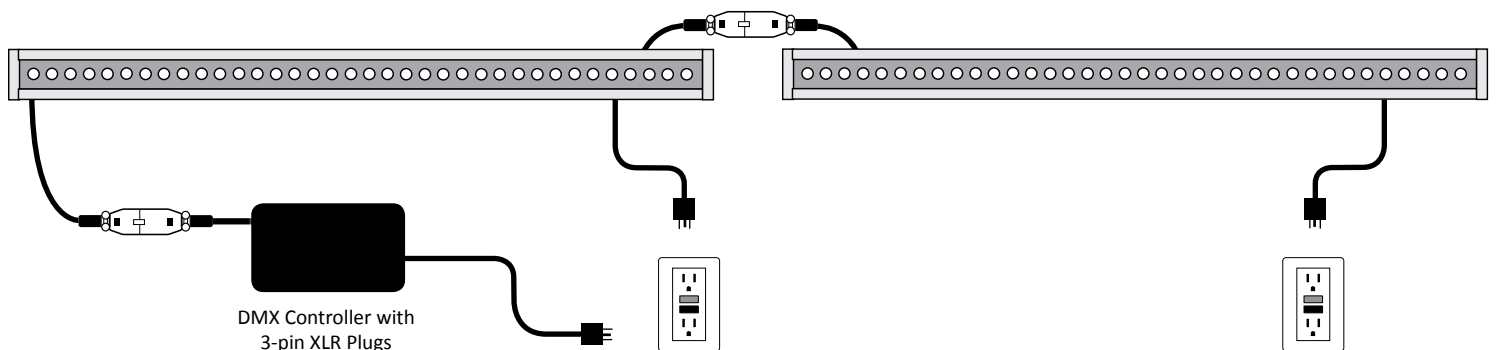

Fig. 3
1. Attach the first wall washer to the DMX controller using one of the attached XLR-3 cables (Fig. 3) (not all controllers have XLR-3 connections).